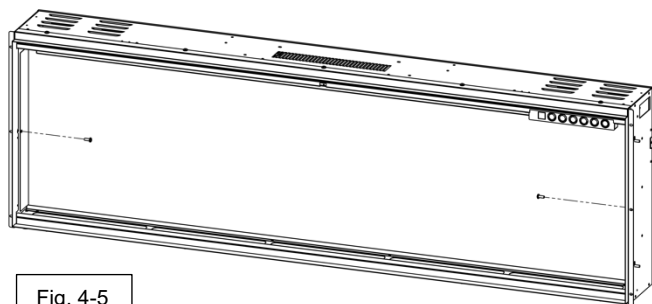
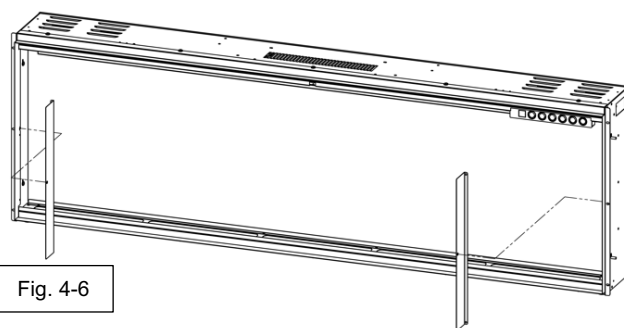

Fig. 4-5
Fig. 4-6
- Remove the two screws (A) from the inside of the appliance internal walls (Fig. 4-5) and remove the internal walls (Fig. 4-6). Set the screws/walls aside.